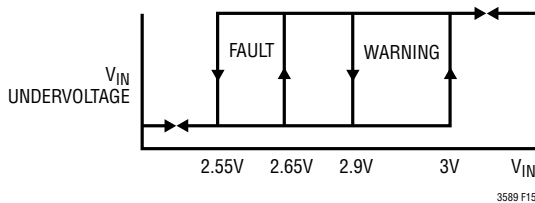

Figure 15. UV Detection Hard Reset and Warning Levels
The LTC3589 undervoltage (UV) detection circuit will output a fault condition, locking out regulator operation, until VIN reaches 2.7V. Once VIN is above 2.7V the LTC3589 will operate normally until VIN drops to 2.55V (typical). When VIN drops below 2.55V, the fault condition initiates a hard shutdown reset. Figure 15 shows undervoltage warning and fault detection levels.